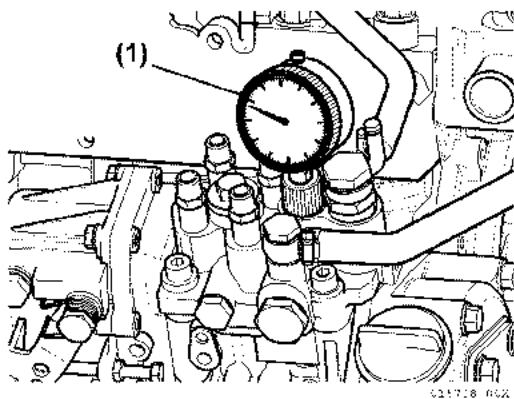

Figure 6-63
3. Note the reading on the dial gauge (Figure 6-63, (1)). If the reading is less than 2.5 mm (0.098 in.), the fuel injection timing is retarded. If the dial gauge reading is greater than 2.5 mm (0.098 in.), the fuel injection timing is advanced.